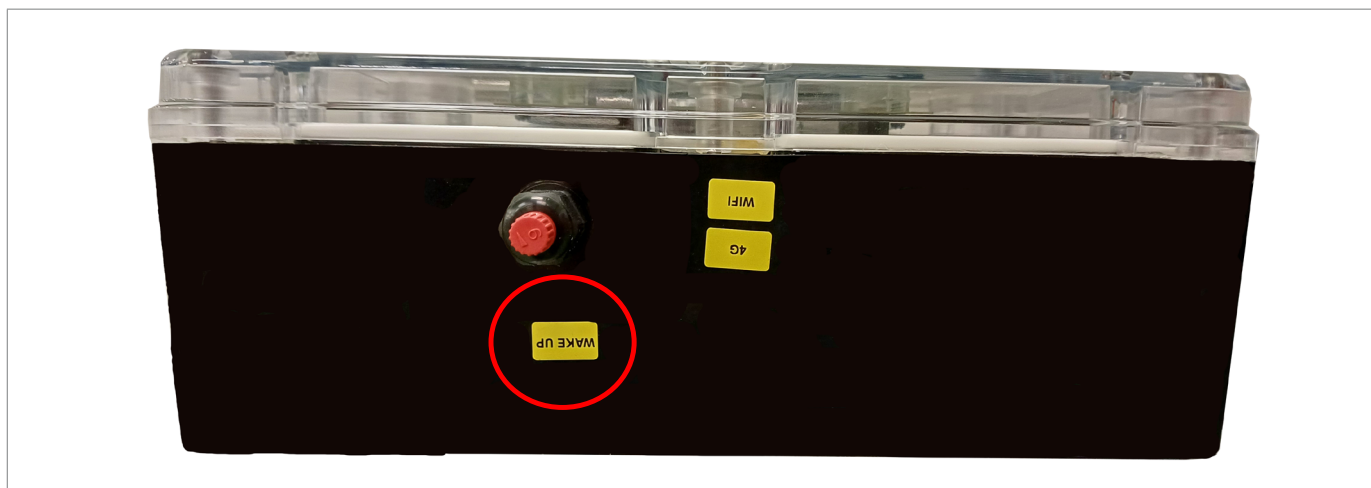

Fig. 5.18. Bluetooth enabling label
1. Place the magnet next to the 'WAKE UP' label (Fig. 5.18)